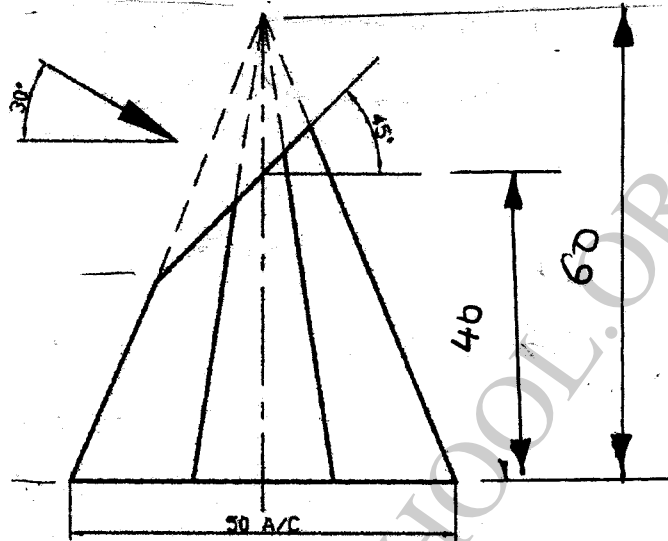

Figure 2
- 6 **Figure 2** shows a truncated hexagonal pyramid whose distance across corners is 50 mm.